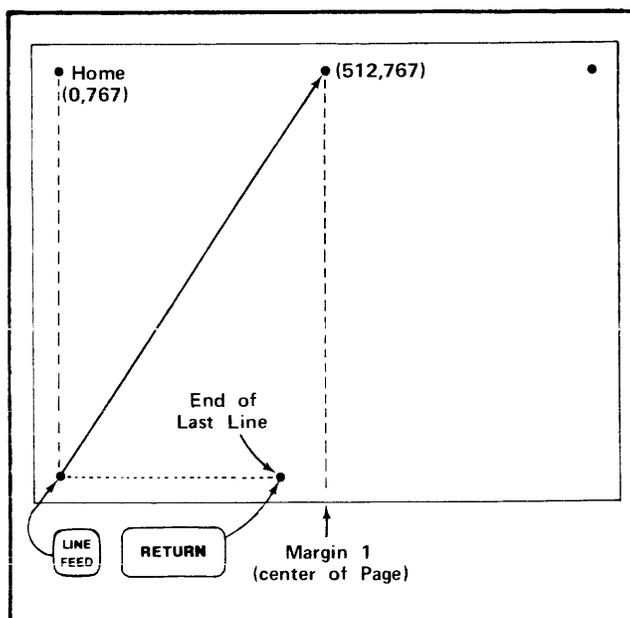

Fig. 2-5. Steps which set up Margin 1 (center of the Page).
Step 16. Center of the page margin called "Margin 1" can be used as a left hand margin. See Fig. 2-5. Margin 1 is automatically set at the end of the 35th line of text when followed by a LINE FEED and RETURN (carriage return). The advantage of using Margin 1 is that you can get two columns of copy; however; if any first column lines extend over one half page they will be covered by the second column.